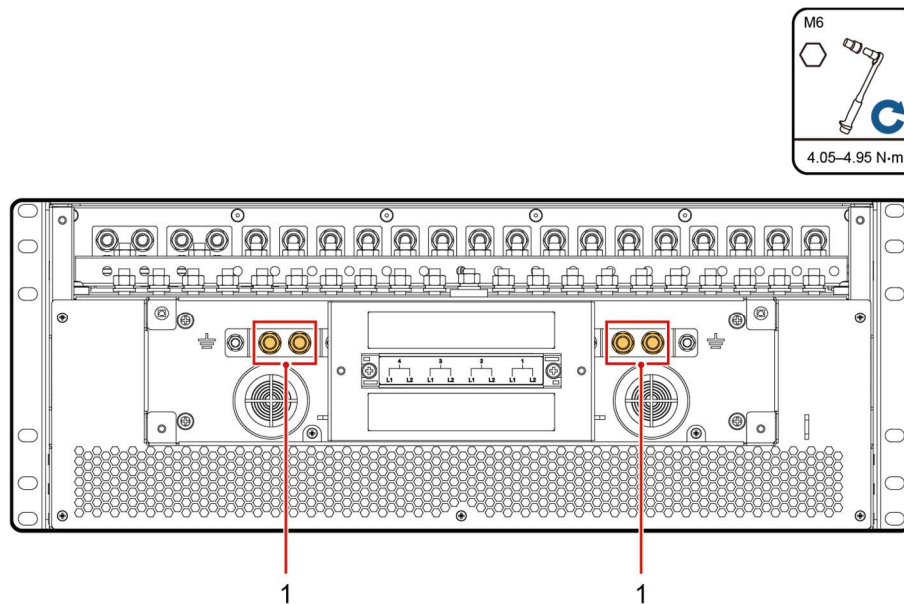

Figure 27 – AC Input Ground Terminals (Straight Rear View)
Step 4 Secure the AC input ground cable to the corresponding AC input ground terminal by using M6X16 bolts, spring washers, and flat washers. Figure 27 shows an AC input ground terminal